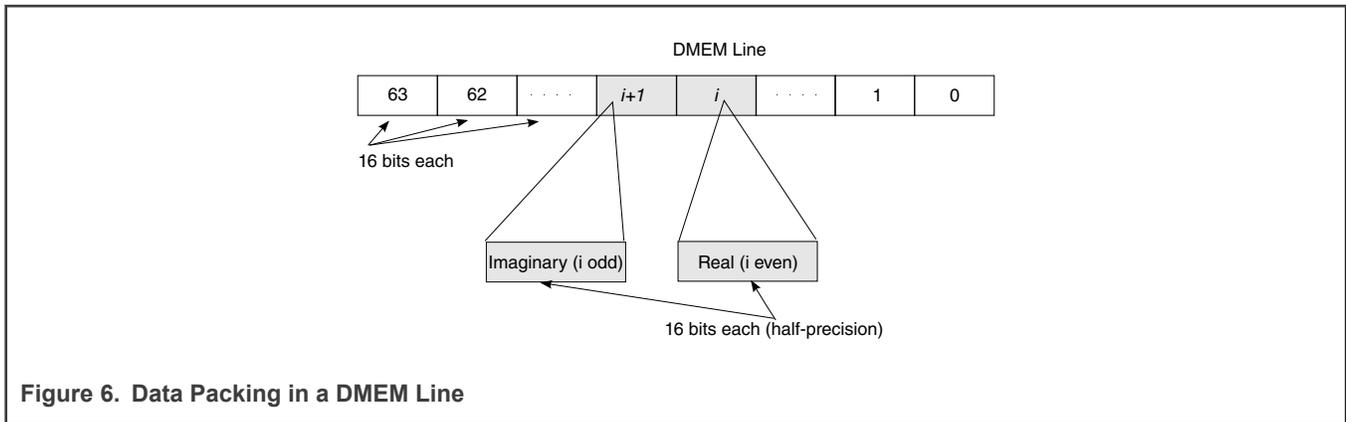

Figure 6. Data Packing in a DMEM Line
A DMEM line follows the little endian addressing convention, that is, the lowest address unit is the right-most (or the least significant) hword on the line. Figure 6 shows how data is packed in a DMEM line. Complex samples are composed of real (I) and imaginary (Q) components, where the real portion is at the lower address unit(s) and the imaginary portion is at the higher address(es). For half-precision representation, the real part occupies the lower 16 bits and the imaginary part occupies the higher 16 bits.